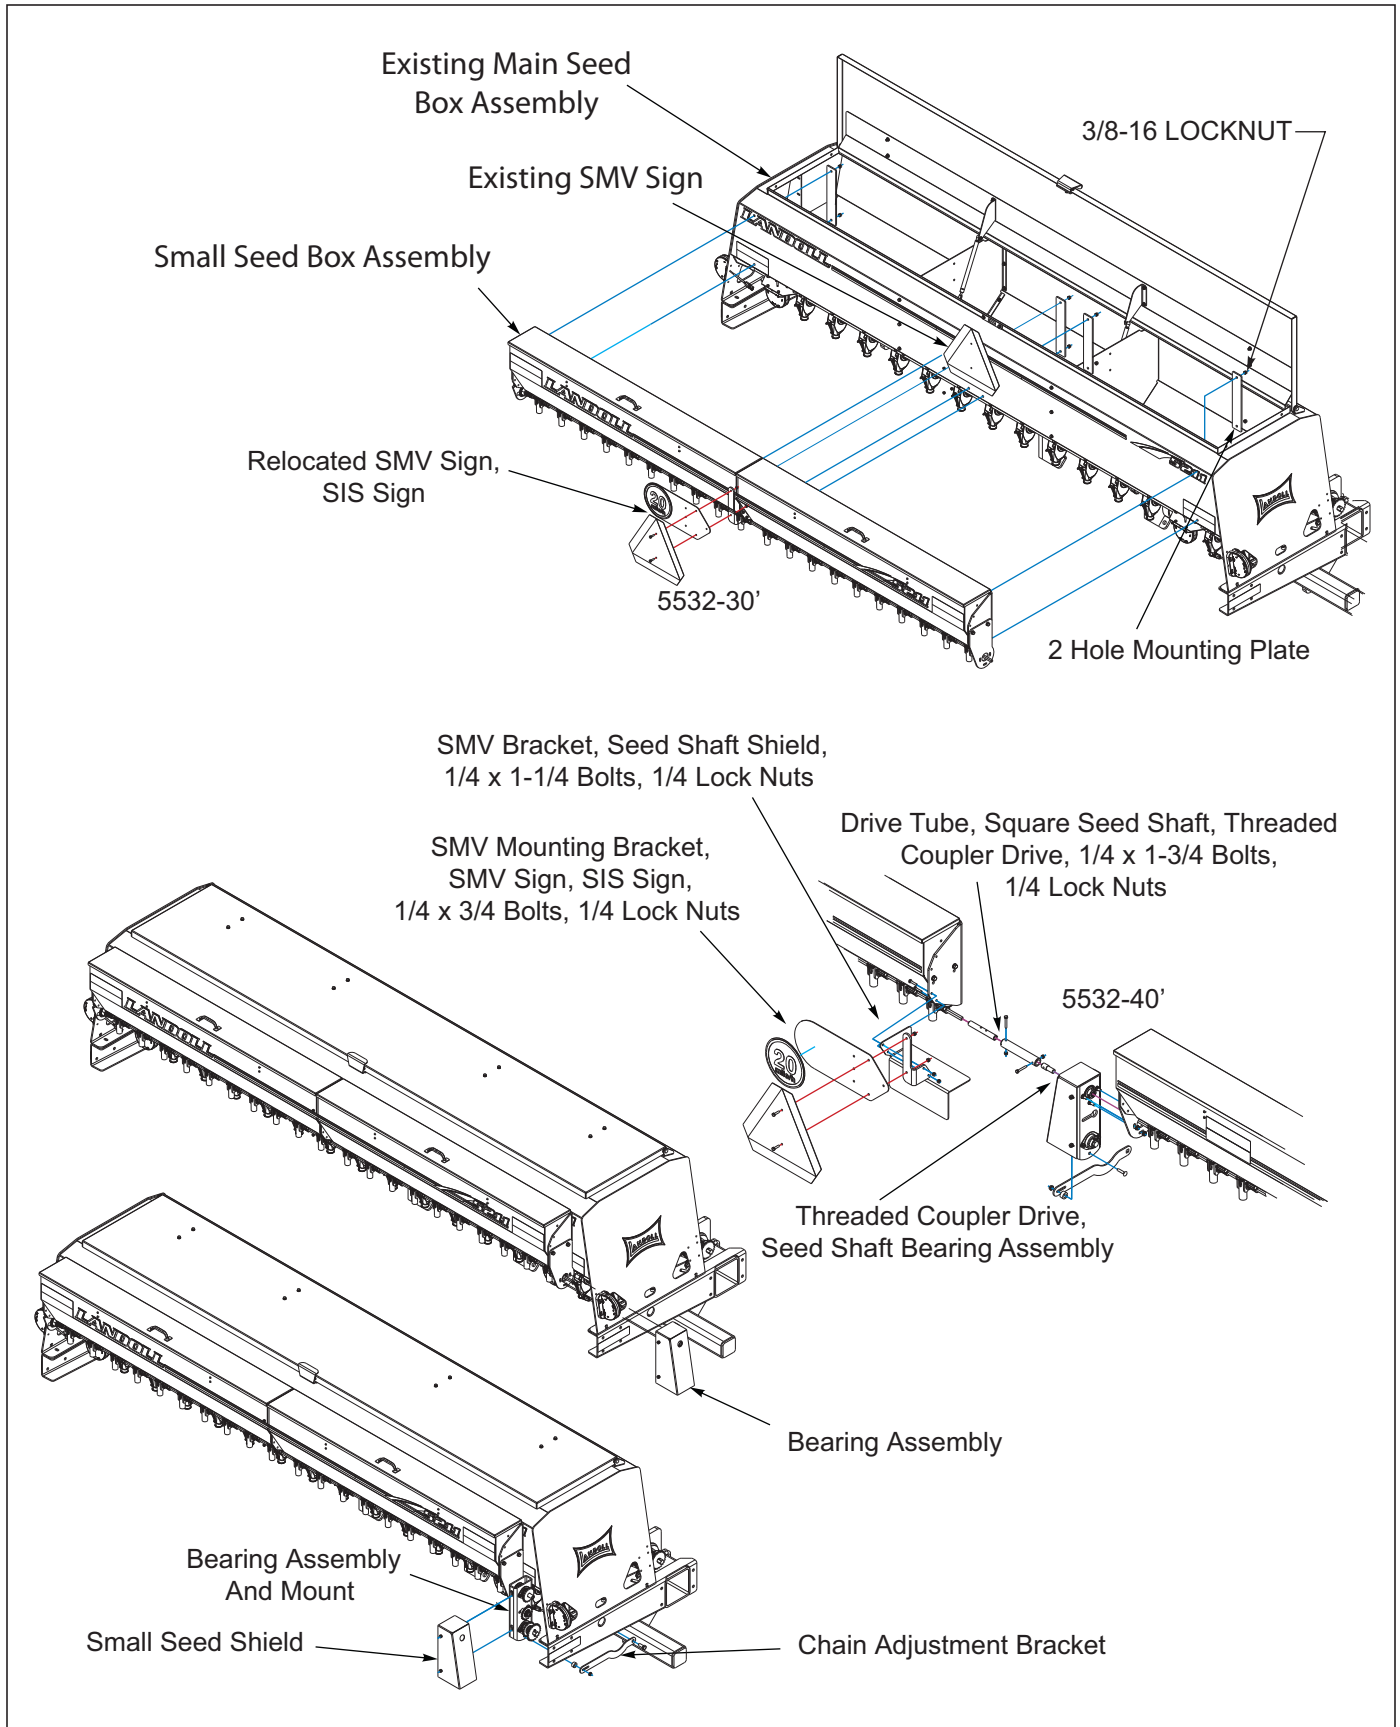

Figure 3-3: Small Seed Assembly Overview
See Figures 3-3 for small seed attachment overview. Use these instructions to install the optional small seed attachment to the rear main seed box of the 553 Grain Drill.
4. Remove the 3/8" hex lock nuts and 2-hole mounting plates from the front of the small seed box assembly See Figure 3-3.
17. For 40' drills, wing braces screw the threaded coupler drive into the open end of the seed shaft bearing assembly on each wing **See Figure 3-3.** Slide the square end of the drive tube over the square seed shaft of the left small seed box. Connect the drive tube and threaded coupler drive with the 6" shaft coupler using 1/4-20 x 1-3/4 hex head cap screws and hex lock nuts.
20. Attach the SMV sign and SIS sign to the SMV mounting bracket with 1/4-20 x 3/4 hex head cap screws and hex lock nuts. Using 1/4-20 x 1-1/4 hex head cap screws and hex lock nuts, attach the SMV and bracket to the seed box mounting bracket extending below the small seed boxes in the center of the machine **See Figure 3-3.**